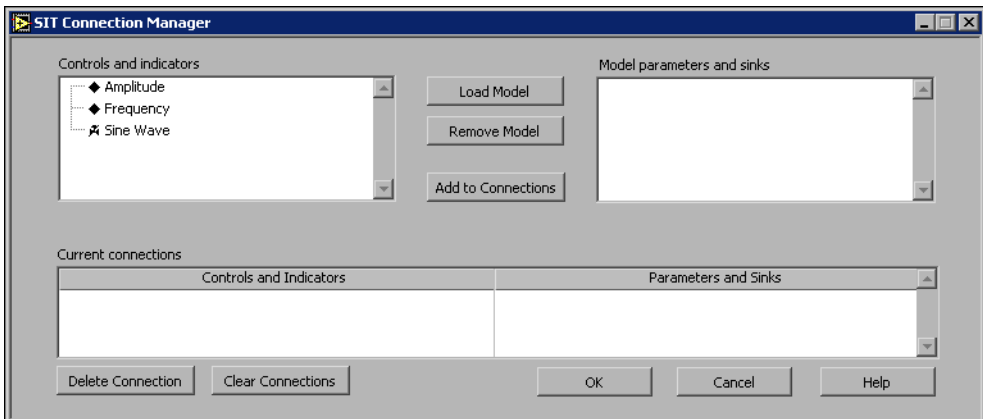

Figure 6. SIT Connection Manager Dialog Box
1. On the front panel menu bar, select **Tools»SIT Connection Manager** to launch the **SIT Connection Manager** dialog box, shown in Figure 6.